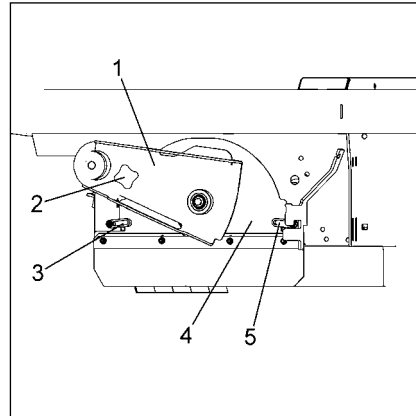

Fig.16
- Loosen star-shaped knob (Fig. 16/2) and remove
- Remove cylinder broom seating (Fig. 16/1)
- Turn handle (Fig. 16/3 and 5) upwards and unlock
- Remove plate with sealing strip (Fig. 16/4)